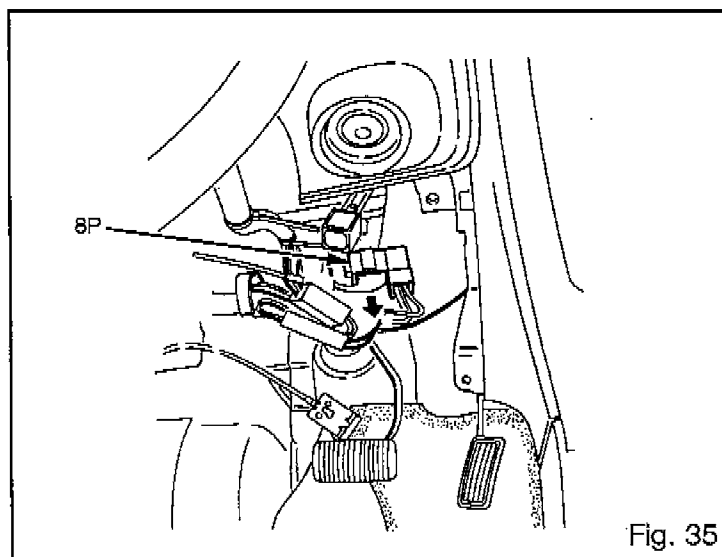

Fig. 35
- (17) Locate and disconnect the 8P female (terminals) connector from the Ignition Switch cylinder. Fig 35